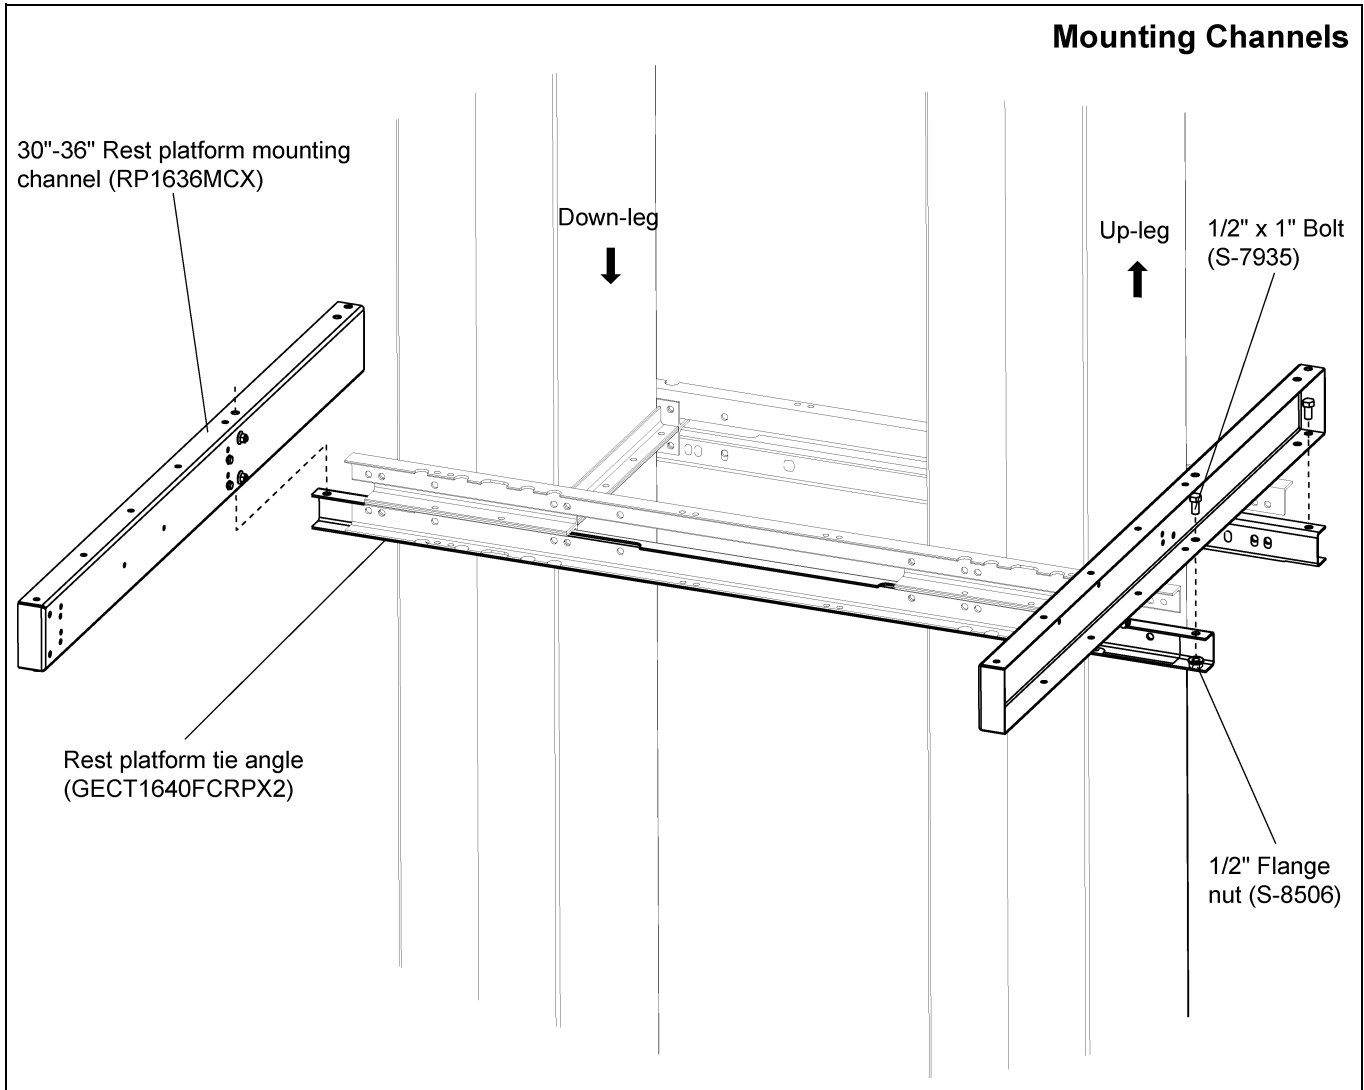

Figure 7E Bolt hole locations for 30"-36" rest platform mounting channels to tie angles.
1. Connect rest platform mounting channels to the rest platform tie angles using 1/2" x 1" bolts. Bolt hole locations for 30"-36" bucket elevator will be the same. (See Figure 7E.)